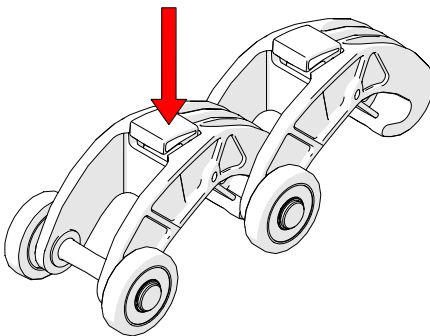

Fig. 66 - Press button
1. Press the button on the top of the chain link (*Fig. 66*).